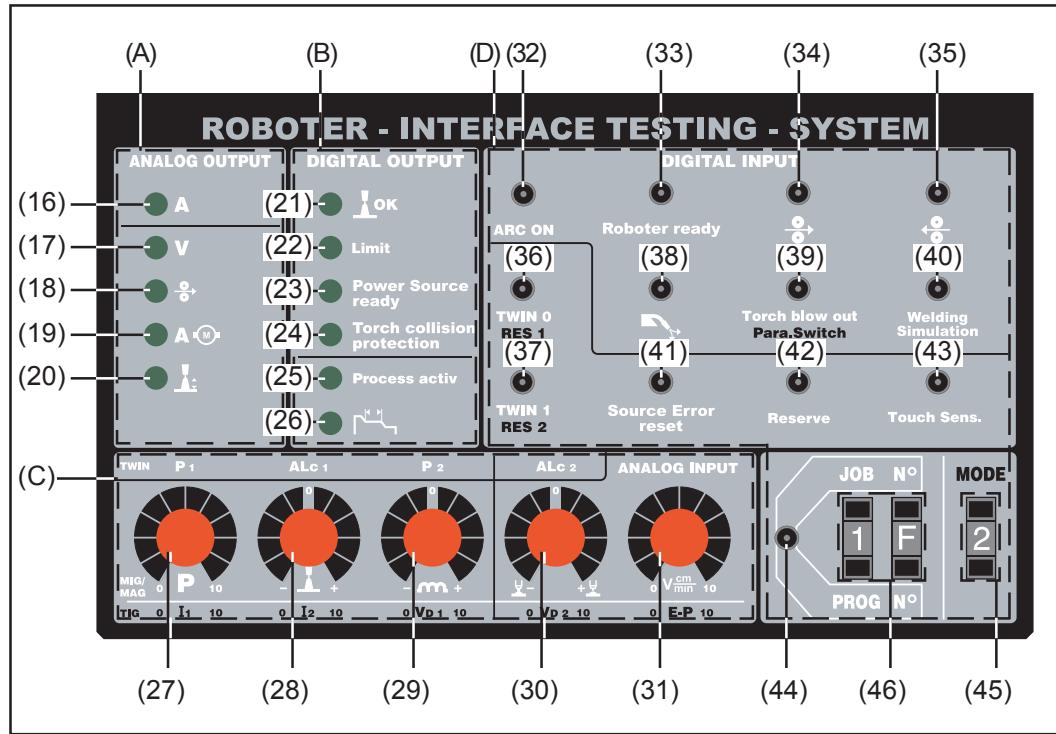

Fig.2 Operating panel of the Robot Interface Testing System
General remark Analogue output signals are grouped in Fig.2 under the heading (A) "Analog Output". The analogue output signals are routed from the robot interface to the Robot Interface Testing System.
General remark The digital output signals are grouped in Fig.2 under the heading (B) “Digital Output”.
General remark The analogue input signals are grouped in Fig.2 under the heading (C) "Analog Input".